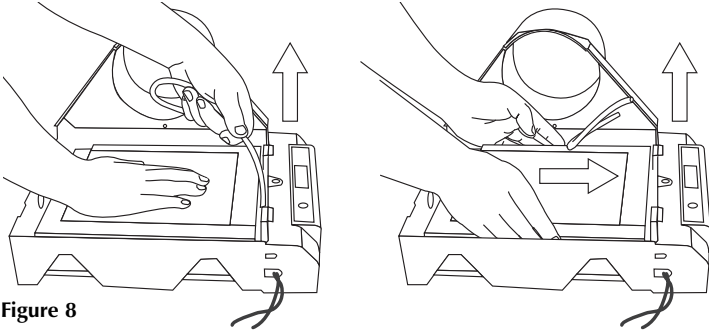

Figure 8
- Remove all loose components packaged inside and any packaging. With a firm pull, disconnect the water tube from the water nozzle and remove the evaporator pad assembly by sliding it toward the top of the humidifier, then lifting it out. (fig 8.)
and any packaging. With a firm pull, disconnect the water tube from the water nozzle and remove the evaporator pad assembly by sliding it toward the top of the humidifier, then lifting it out. (fig 8.) The humidifier comes with a mounting template. Ensure the cabinet is installed level for proper operation.